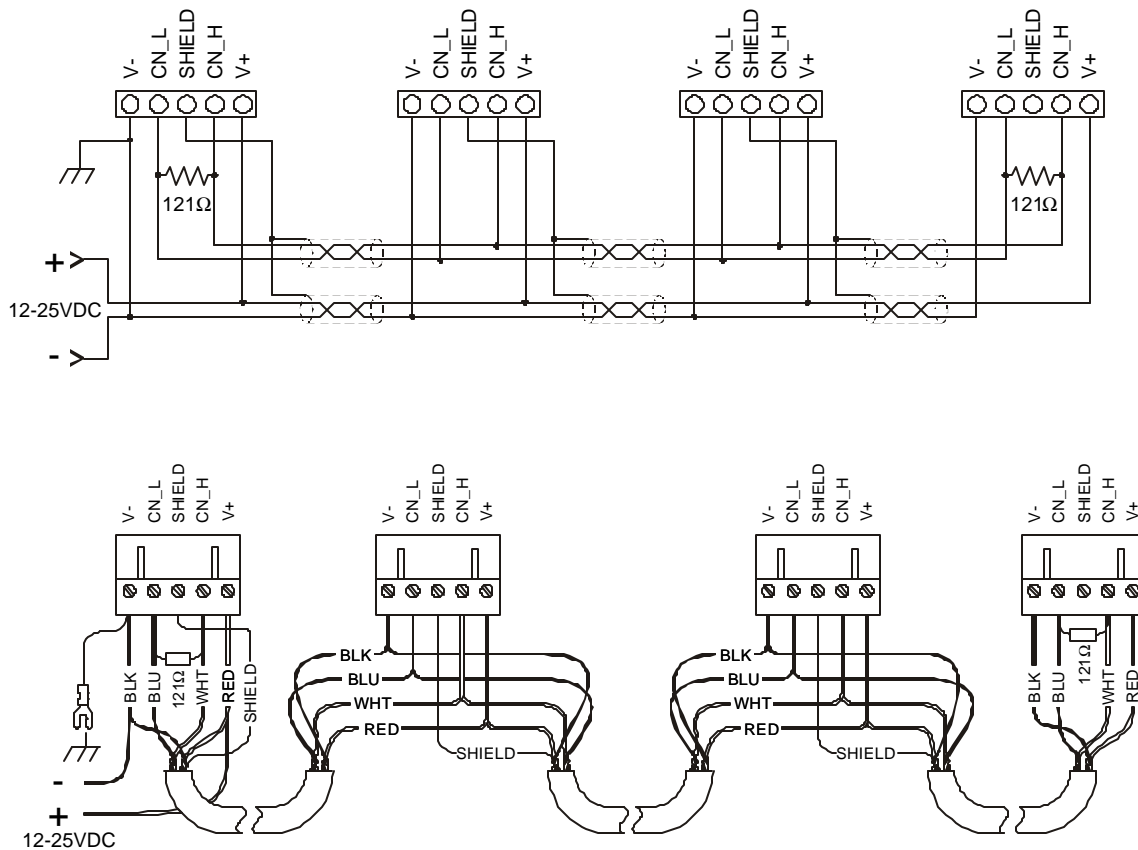

Figure 2.8 – CAN Wiring
c. **CAN Wiring Rules** (See Figure 2.8)
4. To ground the cable shield, connect to pin 3 as shown in Figure 2.8.